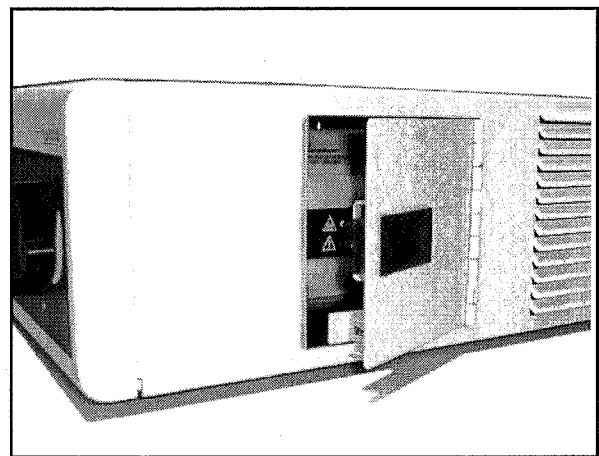

Figure 5
- b. Slide the lamp door latch on the side of the unit toward the rear of the unit and pull out on the door (see figure 5).